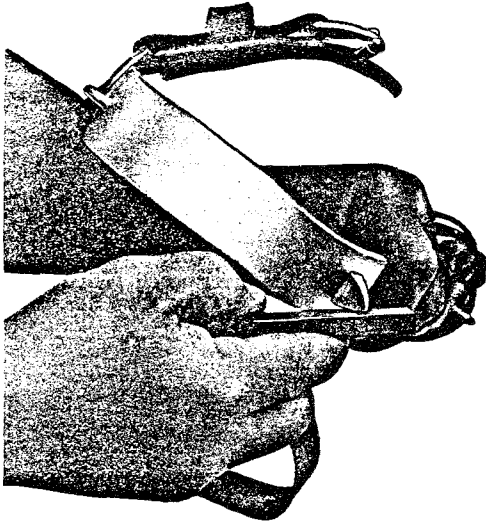

Fig. 18—Removing Burrs From Top Cutting Edge
7.03 First, if there are any small burrs along the cutting edges, remove them by holding the hone against the side of the gaff and **carefully following the edge around to the tip** as indicated in Fig. 18 and 19.